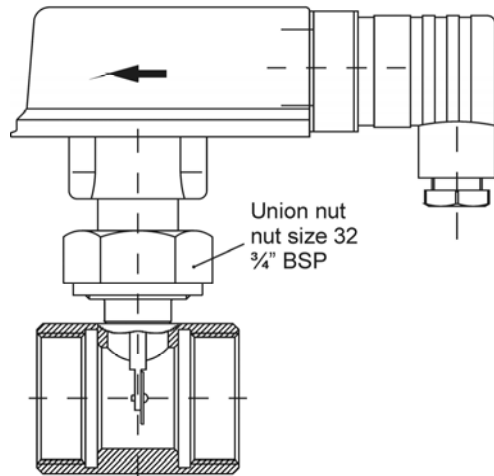

Fig. 5
- ↗ Flow switches optionally equipped with a copper tube section (Fig. 5) have to be soldered to the pipe. The flow switch (body with paddle system) and the o-ring have to be disassembled from the tube section when soldering to prevent overheating.